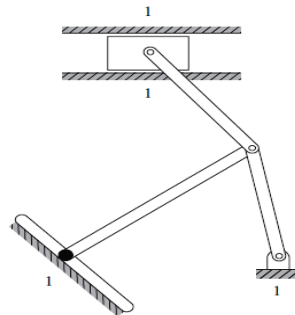

Figure 1
4. A mechanism consists of a four bar chain as shown in figure 1. The connecting rod 'ACB' making an isosceles triangle is a rigid body. Find the velocity of point C, the acceleration of B, when the crank OA rotates, in the counter clock wise direction at 30 rad/sec at constant speed (14M)
2. a) Use the Kutzbach's criterion to determine the mobility of the mechanism shown in figure 1. (6M)